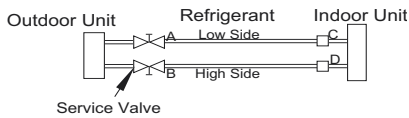

Fig. 16 – Service Valve
1. Completely tighten flare nuts A, B, C, D, connect the manifold gage charge hose to a charge port of the low side service valve (see Fig. 16).